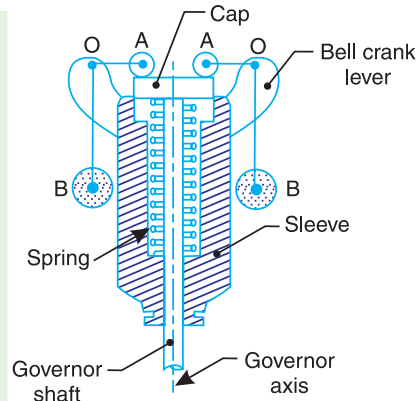

Fig. 18.41
**Example 18.29.** The particulars of a governor of the type as shown in Fig. 18.41, are as follows: